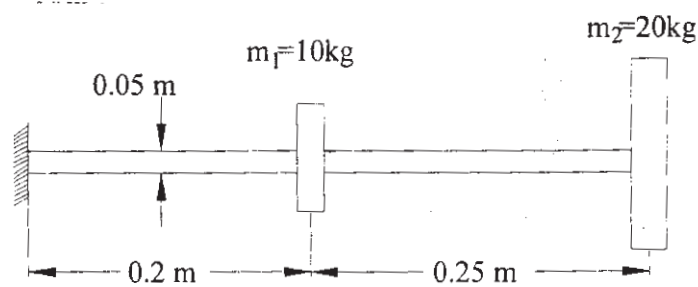

Fig.3
- b)** Determine the flexibility influence coefficient for the system shown in **[5]** Fig.3. Take $E = 2.1 \times 10^{11} \text{ N/m}^2$.